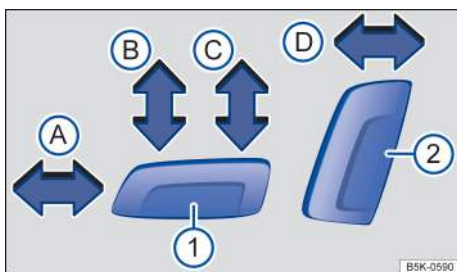

Fig. 66 Driver seat: Electrical controls to move the seat backward or forward, and adjust seat cushion height and backrest angle (if equipped).
Press the switch in the direction of the arrow → **fig. 66**:
- ① Adjust the lumbar support. Push the lever forward or pull it backward.
- ② Adjust the backrest angle. Lean forward and turn the adjuster wheel forward or backward. If the vehicle has an electrical control for adjusting the backrest angle, see → fig. 66 ②.
- ③ Adjust the seat height. Move the lever several times up or down.
- ④ Move the front seat forward or back. Pull the lever up and move the front seat. The front seat must lock in place after the lever is released!